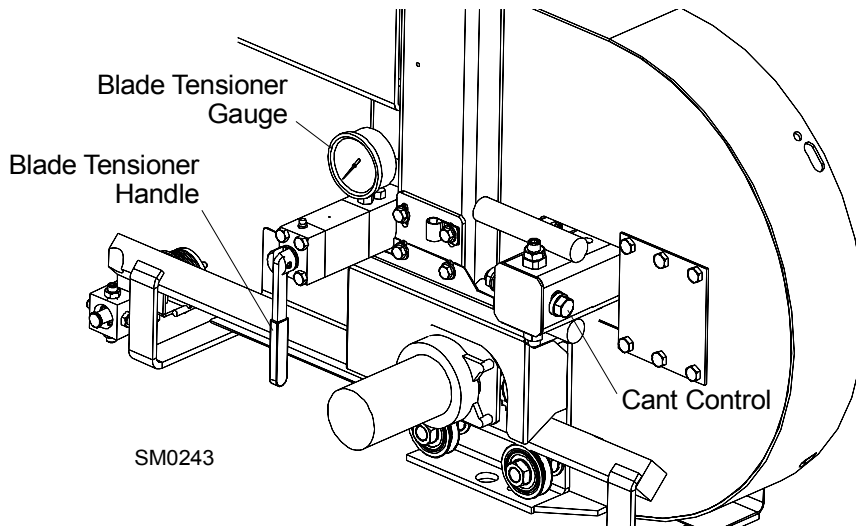

FIG. 2-7
See Figure 2-7. Tension the blade by turning the hydraulic tensioning handle clockwise until the tension gauge indicates the recommended tension.
5. To adjust where the blade travels on the blade wheels, use the cant control shown in **Figure 2-7**.